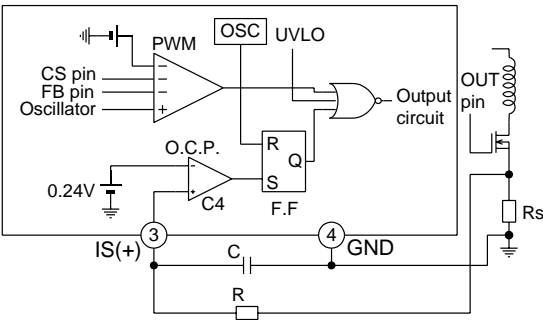
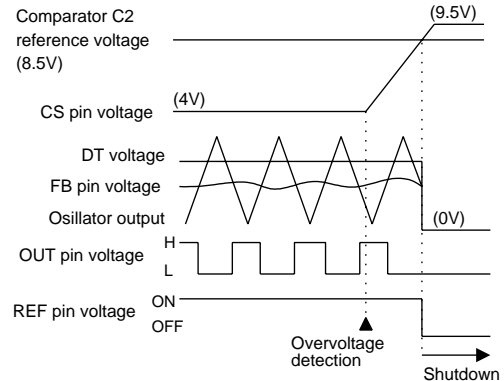

**Fig. 15 Overcurrent timing chart**
**Fig. 13 Overcurrent limiting circuit (FA5510/11)**
The overcurrent limiting circuit detects the peak value of every drain current pulse (pulse by pulse method) of the main switching MOSFET to limit the overcurrent. The detection threshold voltage is +0.24V for FA5510/11 or -0.17V for FA5514/15 with respect to the ground as shown in Figure 13 and Figure 14. The drain current of the MOSFET is converted to voltage by resistor  $R_s$  and fed to the IS pin of the IC. If the voltage exceeds the reference voltage +0.24V (FA5510/11) or -0.17V (FA5514/15) of comparator C4, comparator C4 works to set flip-flop output Q to high. The output is immediately turned off to shut off the current. Flip-flop output Q is reset on the next cycle to turn on the output again. This operation is repeated to limit the overcurrent.
If the overcurrent limiting circuit malfunctions due to noise, place an RC filter between the IS pin and MOSFET as shown in Figure 13 and Figure 14. (See item 12 in "Design advice.") Figure 15 is a timing chart that illustrates overcurrent-limiting operations.